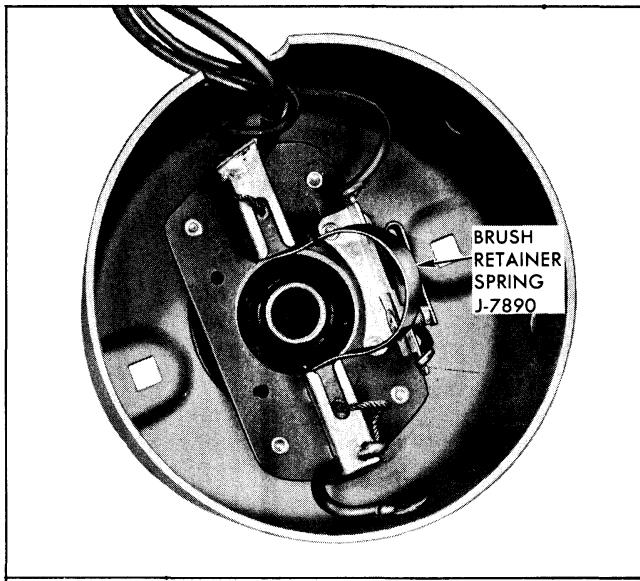

Fig. 11-104 Retainer in Position for Armature Installation
10. Insert second brush retainer spring (Fig. 11-104) between brush faces and remove retainer spring previously installed.